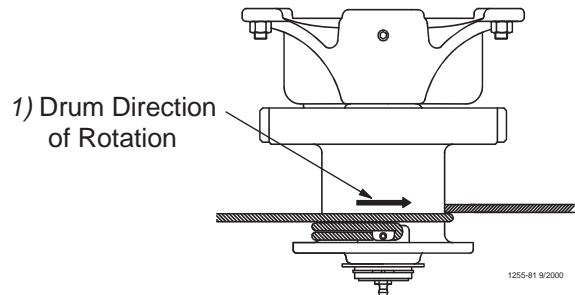

Figure 12. Power Winch Drum Rotation
5. Turn the winch drum one full revolution. Guide the cable against the flange at the bottom of the winch drum. The cable must not wrap over itself on the drum, but should be wrapped as close as possible to each previous wrap. **See Figure 12.**